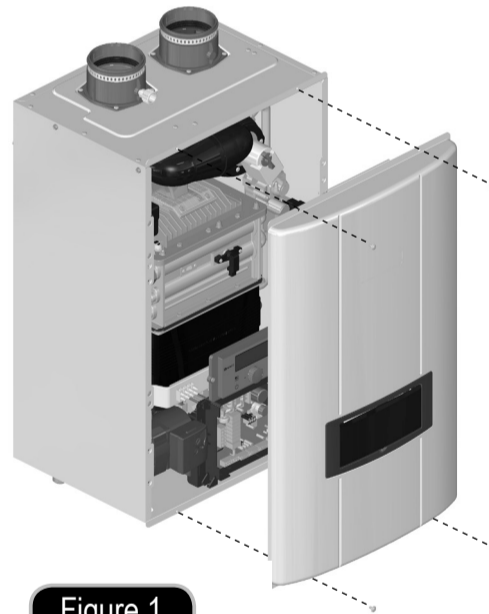

Figure 1
- Remove the front cover by loosening the 4 screws. (See Figure 1)